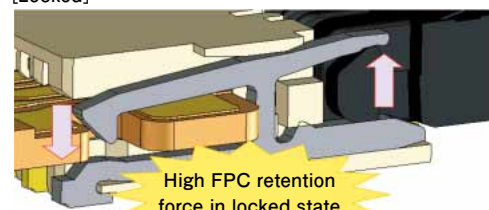

Fig.2
• Chucking metal at both side of the connector provides high FPC retention force. (Fig.2)